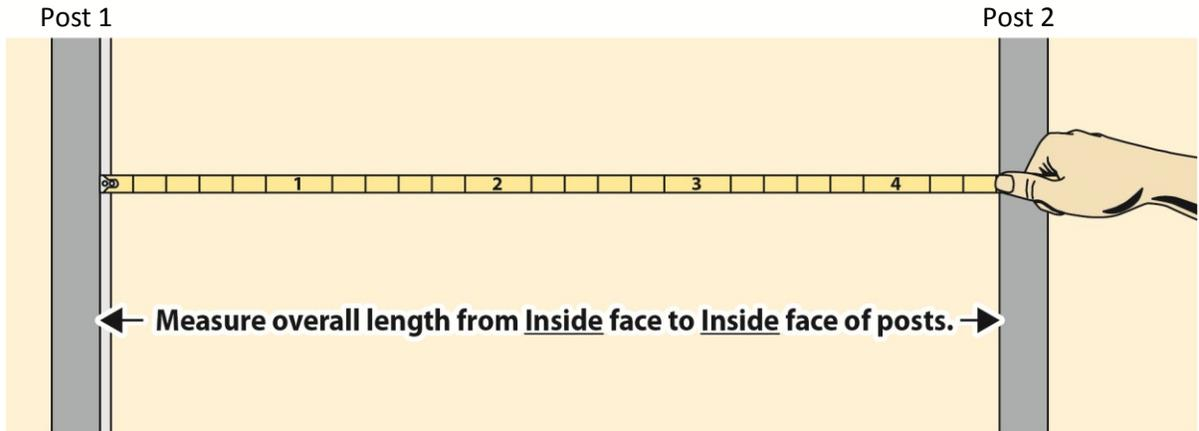

Fig 3
4.1 Doing only one section at a time, measure (Fig. 3) overall length from inside face of the beginning post (AKA terminal/end post) to the inside face of your ending post face.
(See Fig. 3)
**7. INSTALL SURFACE MOUNT FITTING TO POST 2 (See Fig. 3)**